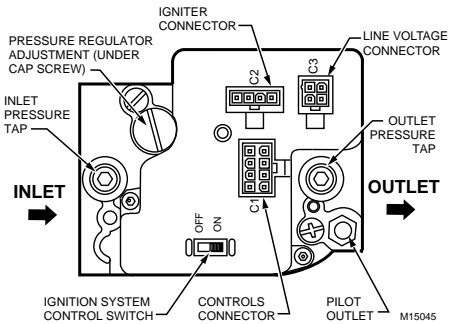

Fig. 4. Top view of ignition system control.
6. Connect the pipe to the ignition system control inlet and outlet. Use a wrench on the square ends of the ignition system control. If a flange is used, place the wrench on the flange rather than on the ignition system control. Refer to Fig. 4 and 5.
2. With main burner operating, check the ignition system control flow rate using the meter clamping method or check pressure using a manometer connected to the outlet pressure tap on the ignition system control. See Fig. 4.